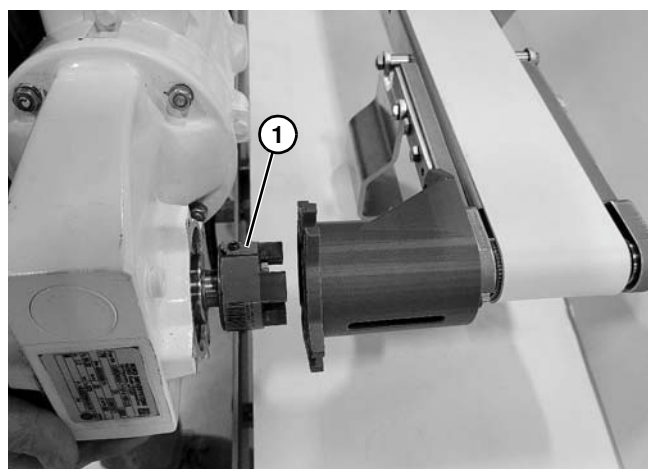

Figure 14
5. Install motor with 3 jaw coupling (Figure 14, item 1) onto shaft, making sure the couplings are engaged.